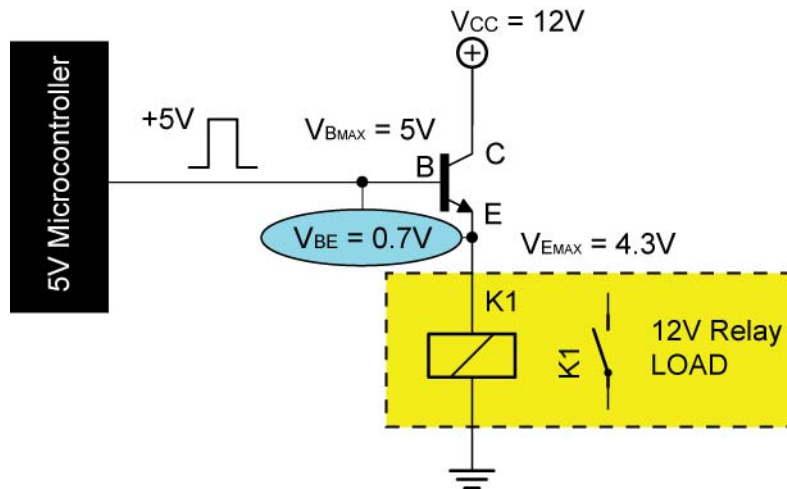

Figure 28: NPN Transistor Acting as a Source Cannot Drive the 12 Volt Relay Load
- Let's see why this could be a problem. Suppose the load in the circuit is a 12V relay, and a 12V supply is connected to the collector (Figure 28). A 5V microcontroller controls the transistor so 5V is the maximum that can be supplied to the base. The emitter voltage is 0.7 V lower than the base, $V_E = 4.3\text{ V}$, which is too low to activate the 12V relay coil. The voltage can't go higher, because then there wouldn't be a base current anymore. So if the rated load voltage is higher than the control voltage you can't use a NPN transistor as a source.